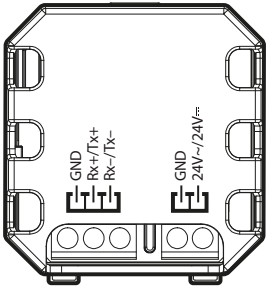

fig. 3p
- for 24 Vac/24 Vdc models see Fig. 3p; make sure the polarity (24 V , GND) is right for direct current power supply;